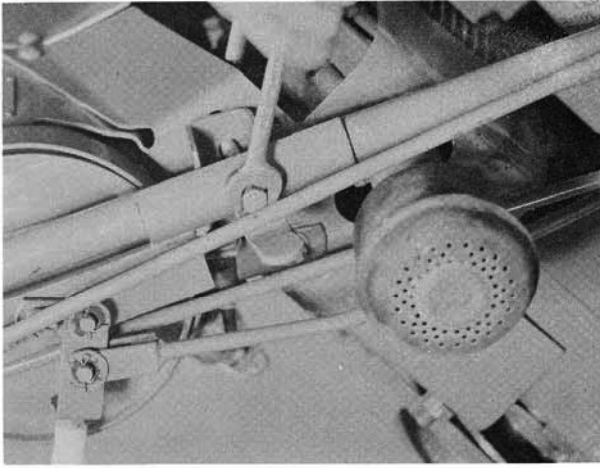

Figure 53
33. Place the Shifting Handle Mount Bracket on the handle bar and tighten the bar into place, as seen in Figure 53.